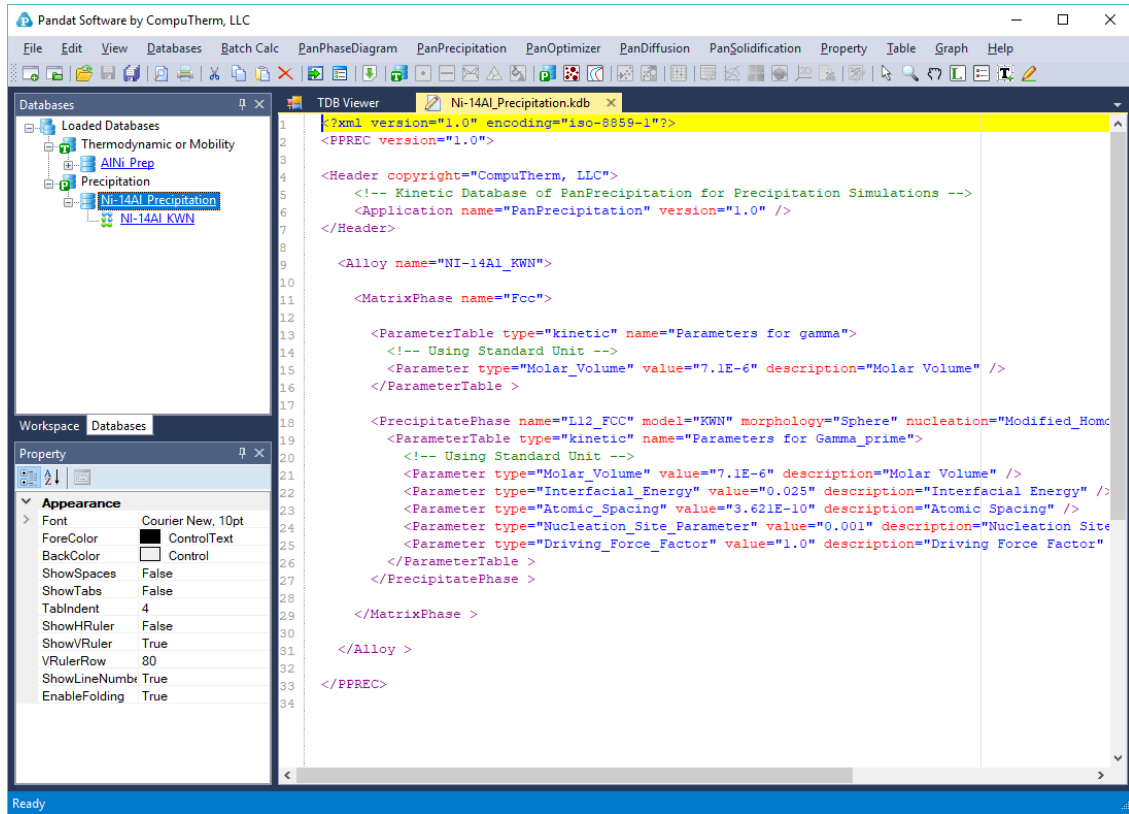

Figure 3.1.2: Parameters defined in the Ni-14Al_Precipitation.kdb
- Click File->Open File to open the Ni-14Al_Precipitation.kdb. As shown in Figure 3.1.2, in addition to the matrix phase and precipitate phase, other parameters, such as, molar volume and interfacial energy are also defined in this file. Details on these parameters can be found in Pandat User's Guide 5.1.4;